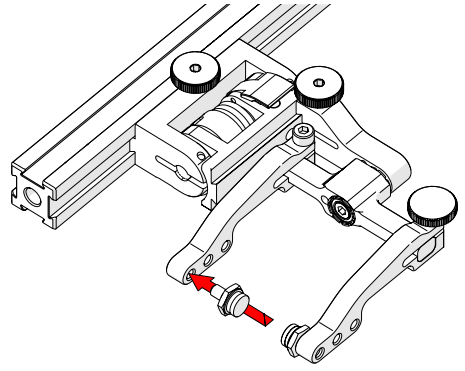

Fig. 133 - Place pivot buttons
4. Using the supplied 3/8 in wrench (Fig. 41), place the pivot buttons (Fig. 133) farthest from the yoke for maximum wedge clearance.